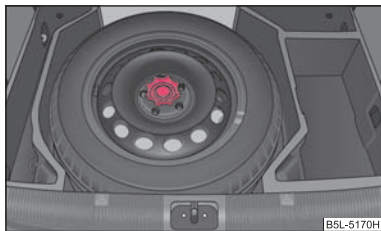

Fig. 178 Luggage compartment: Spare wheel
The spare wheel is stowed in the luggage compartment in the area below the variable loading floor and is secured with a special screw ⇒ fig. 178.
- Stow and attach the replaced wheel in the spare wheel well using a special screw ⇒ page 214, fig. 178.